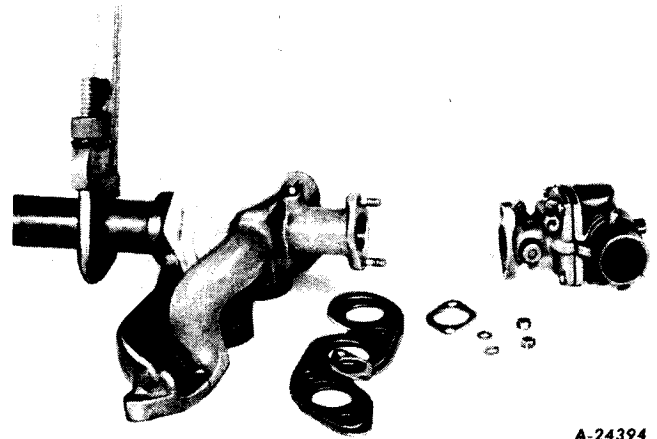

Fig. 9 - Removing the Exhaust Pipe.
2. Remove the exhaust pipe from the assembly by unscrewing it (Fig. 9).
1. Install the exhaust pipe in the manifold (Fig. 9).